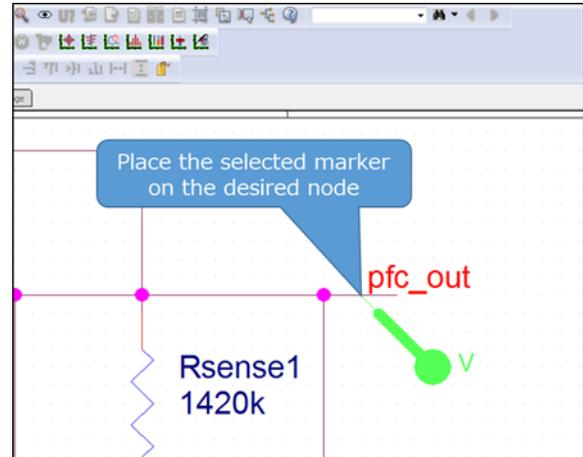

Fig. 5.9 Placing a marker in the circuit
2. Place the selected marker on the desired node in the simulation circuit as shown in Fig. 5.9.